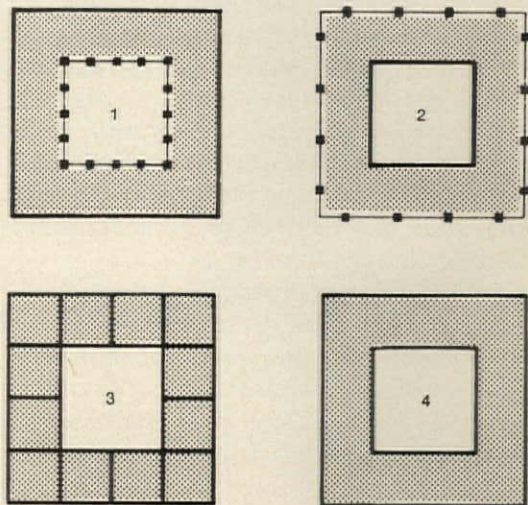

Figure 4
1. Tubular concept utilizing the exterior wall, as in the World Trade Center (Vierendeel) and the John Hancock Center (diagonal) and shown in Figure 4, 1.
2. Tubular concept utilizing the interior wall but coupled to the exterior wall, as in the US Steel Building and shown in Figure 4, 2.
3. Bundled tube concept, as in the Sears Tower but with a hollow center, shown in Figure 4, 3.
4. Tube-within-a-tube system, with or without a floor-by-floor coupling system, but almost surely with several levels of large-scale space-frame coupling, as shown Figure 4, 4.